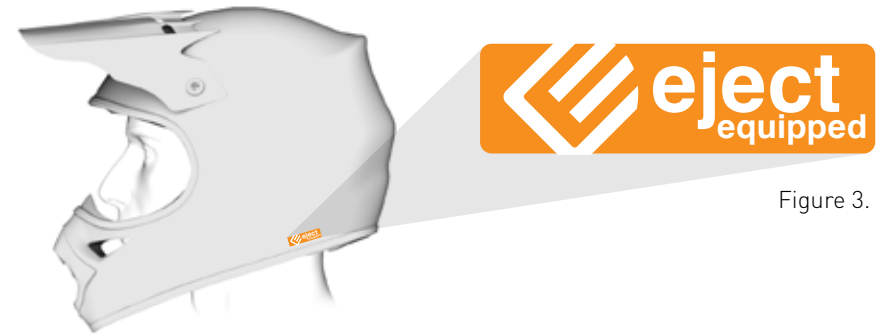

Figure 3.
8. Apply the Eject Equipped sticker to the outside of the helmet in close proximity to the location of the connector at the end of the tubing as shown in Figure 3 below.